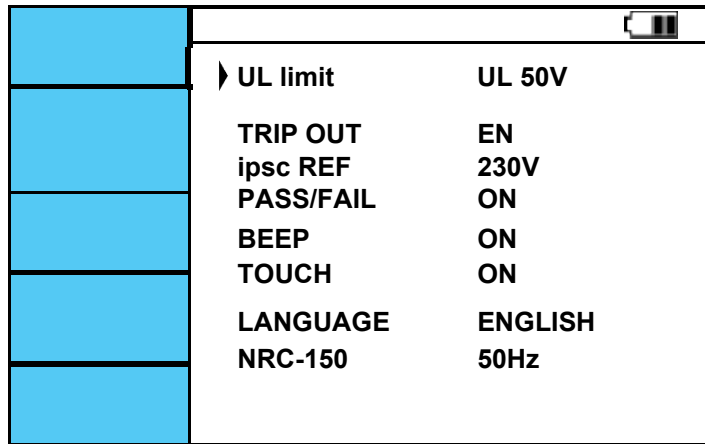

Figure 6.3.3 Information set screen.
- II. Move the cursor up and down on the Figure 6.3.3 screen to set the position and use the left and right buttons to set.